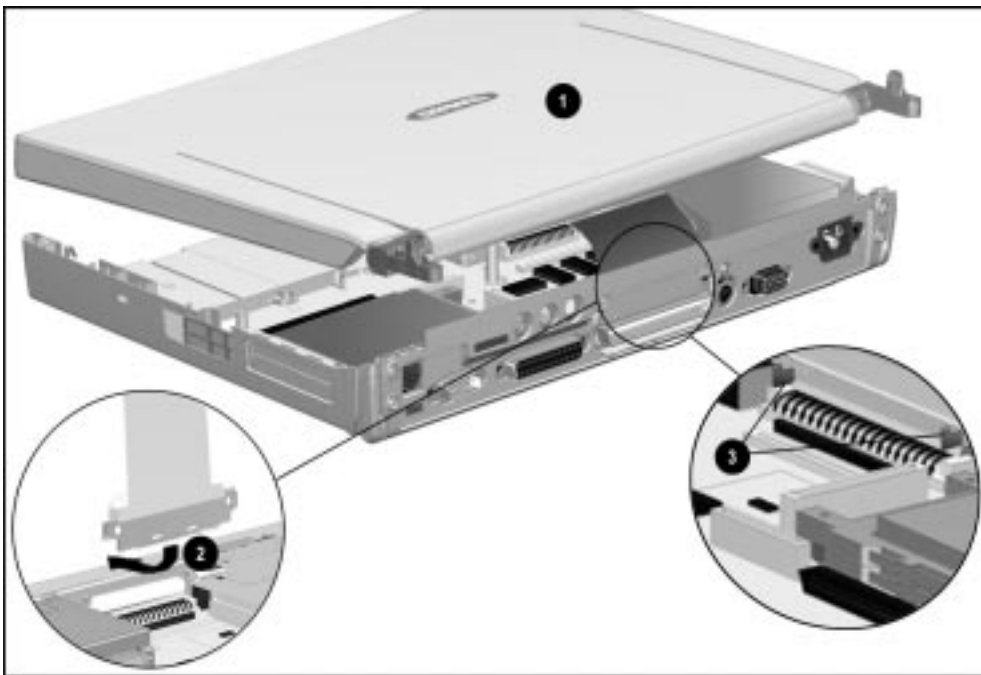

Figure 5-55. Attaching the Display Ground Cable/Auxiliary Battery Assembly to the Computer Base Assembly
3. Hold the display assembly approximately one to two inches above the base assembly, parallel to the computer ❶ (Figure 5-55).
4. Roll the auxiliary battery assembly and display ground cable counterclockwise toward the computer ❷ and place the tabs on the auxiliary battery bracket on the hooks on the base assembly ❸.